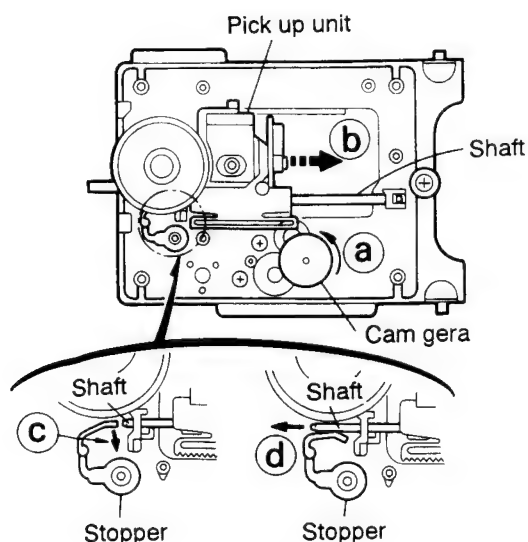

Fig. 5-34a
## ■ Removing the CD pickup unit (See Fig. 5-34a)
2. According to the above step, shift the CD pickup unit to the center position (Fig. 5-34a).
3. While pressing the stopper retaining the shaft in the arrow direction (c), pull out the shaft in the arrow direction (d) (See Fig. 5-34a).